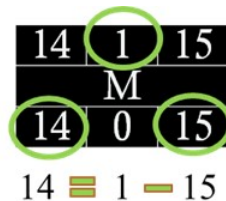

Figure 3.16: Starting backward pass at the last activity
1. Late Finish (LF) for the last activity M is passed from EF (15 weeks). Then, we subtract LF from the activity duration to find the Late Start (LS). It is $(15-1) = 14$ weeks (Figure 3.16).